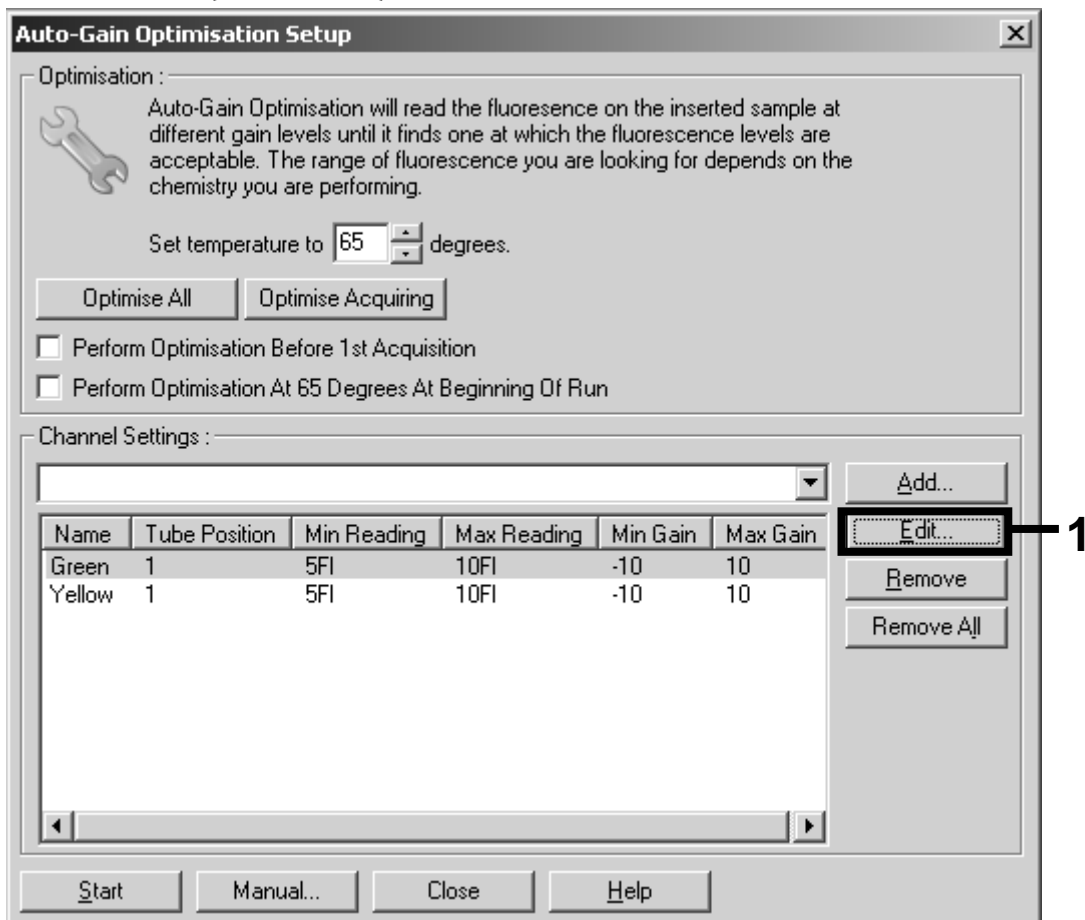

Figure 15. Adjusting the fluorescence channel intensity manually for every fluorescence channel at different tube positions for different assays (CMV and EBV).
9. Click "Edit" (Figure 15) to edit the fluorescence channels.